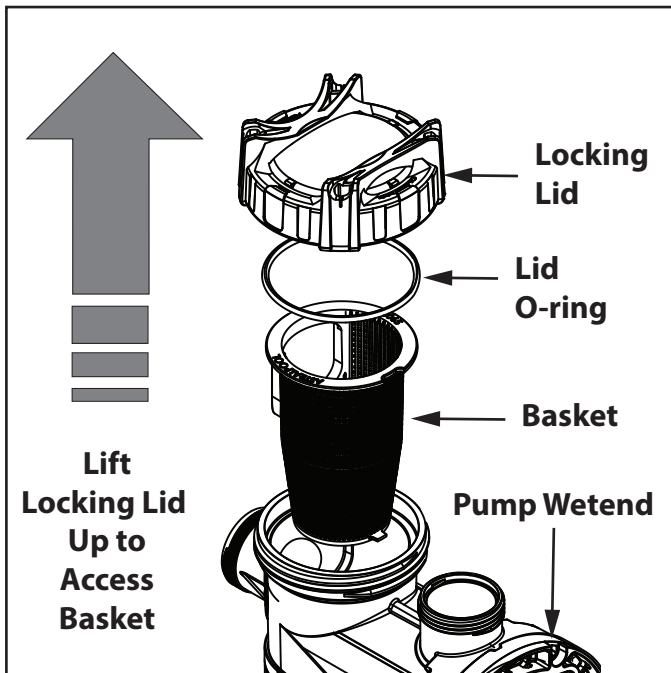

Figure 11. Remove Pump Lid
- Following the markings on the locking ring, turn the ring counter-clockwise until the ‘START’ markings align with the ports. See Figures 11.